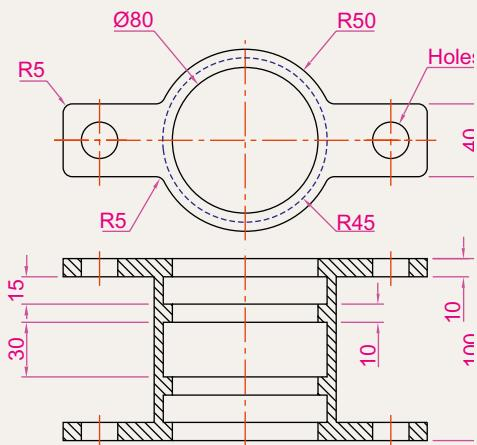

Fig. 14.37 Exercise 2
- Construct a 3D model drawing of the separating link shown in the two-view projection (Fig. 14.37). With the **Slice** tool, slice the model into two parts and remove the rear part.